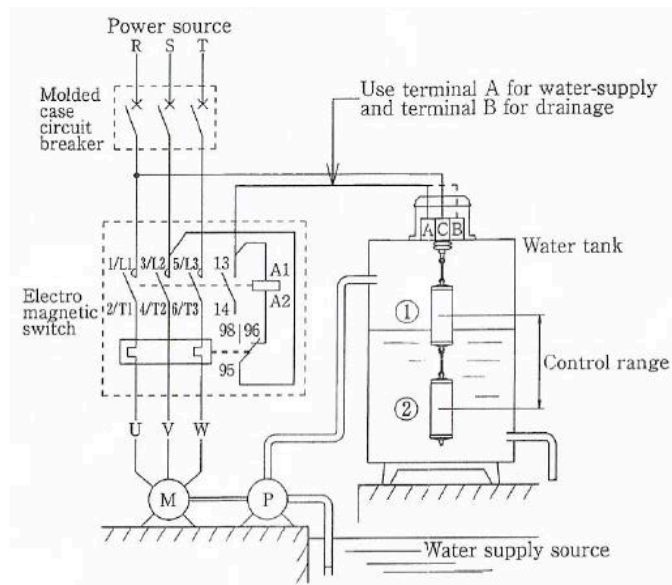
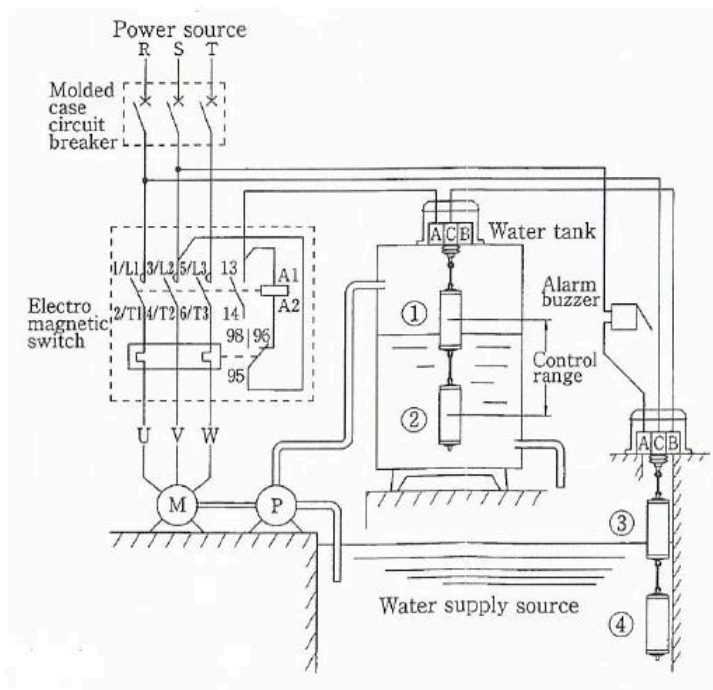

Figure 3 Connecting diagram normal use
Figure 4 Connecting diagram with alarm
5. Connect the floater switch following the connection diagrams in Figure 3 or Figure 4